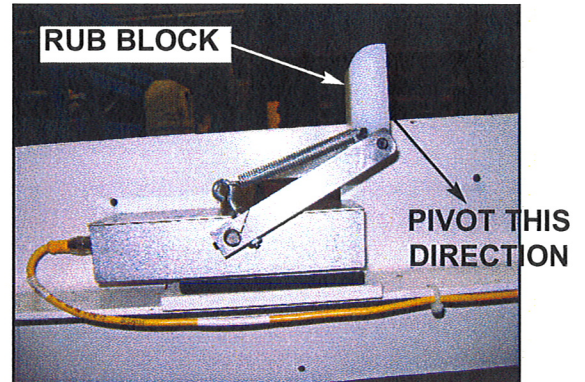

Figure 30
4. If arm adjustment is needed, loosen nut by eyebolt and set screw in end of bar. Do not go much past vertical with white rub rub block. It must be able to pivot down past end of bar. If it pivots the wrong direction, it will jam device. See Figure 30.